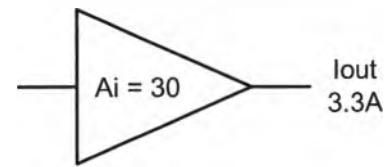

Figure 10
32. What is the input current of the amplifier in Figure 10?